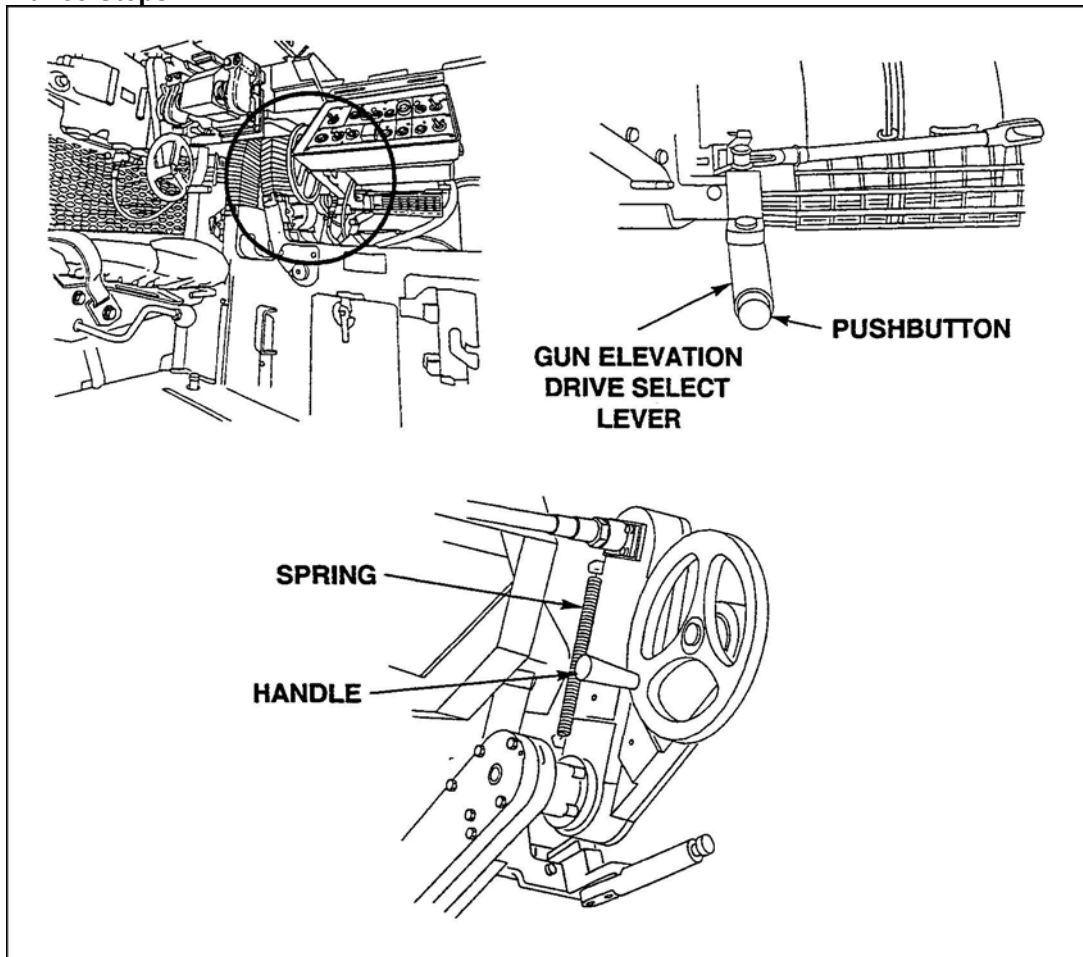

Figure 11. Gun elevation select lever and handwheel.
- (1) Move the ARM-SAFE-RESET switch on the SCB to RESET, then to SAFE.
- (2) Move the turret drive system switch on the SCB to OFF.
- (3) Move gun elevation drive lever to manual (Figure 11).